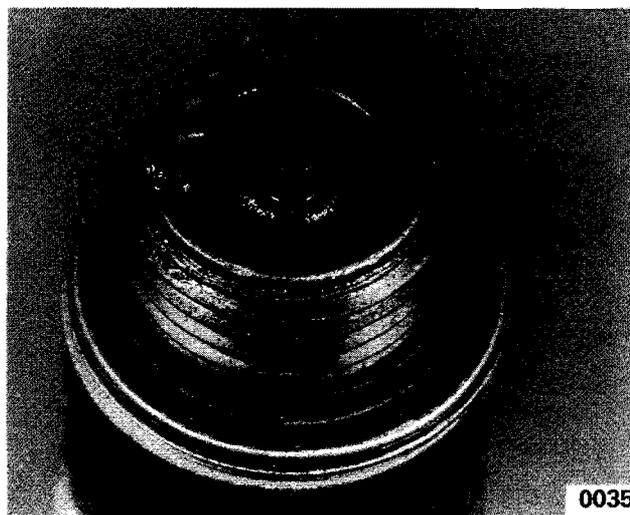

FIG. 41
- d. Oil fouling deposits wet, sludgy deposits and is a result of misfiring or of excessive oil in the fuel mixture (Fig. 41).